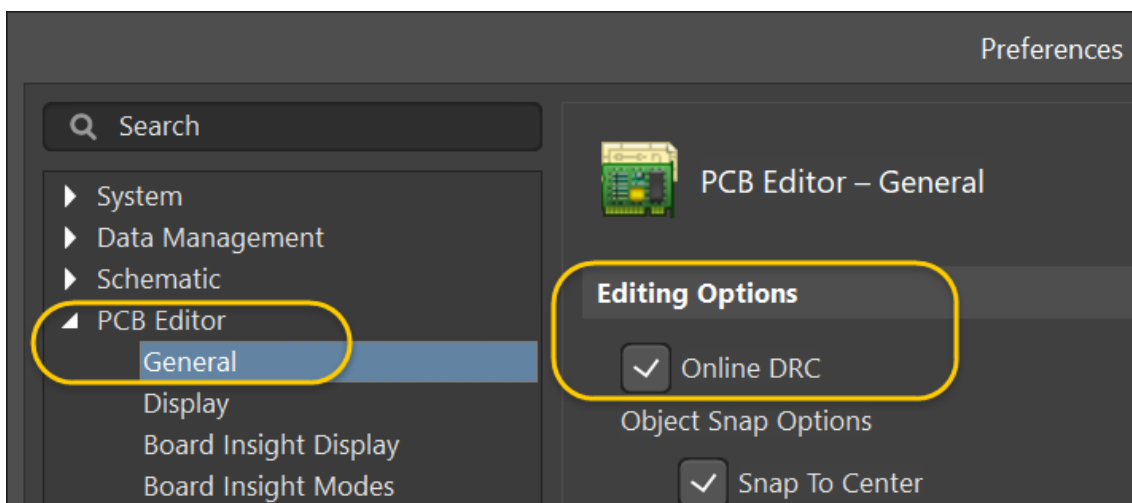

Figure 2. Online DRC preference
- b) Ensure that the **Online DRC** checkbox is enabled, as shown in Figure 2.